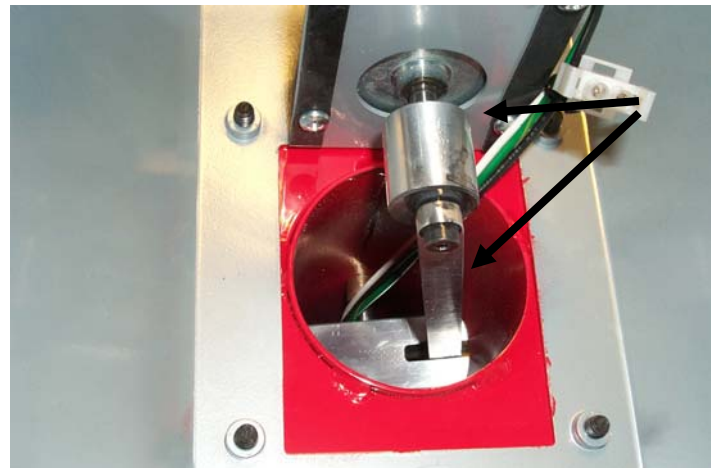

Fig. 3
3. Use a light weight oil to lubricate critical wear points. See fig. 3